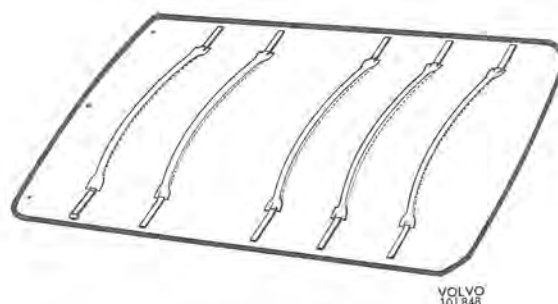

Fig. 8-35. Headlining
5. Fit the stretchers in the new headlining. Make sure that they are provided with rubber caps at the ends as shown in Fig. 8-35.